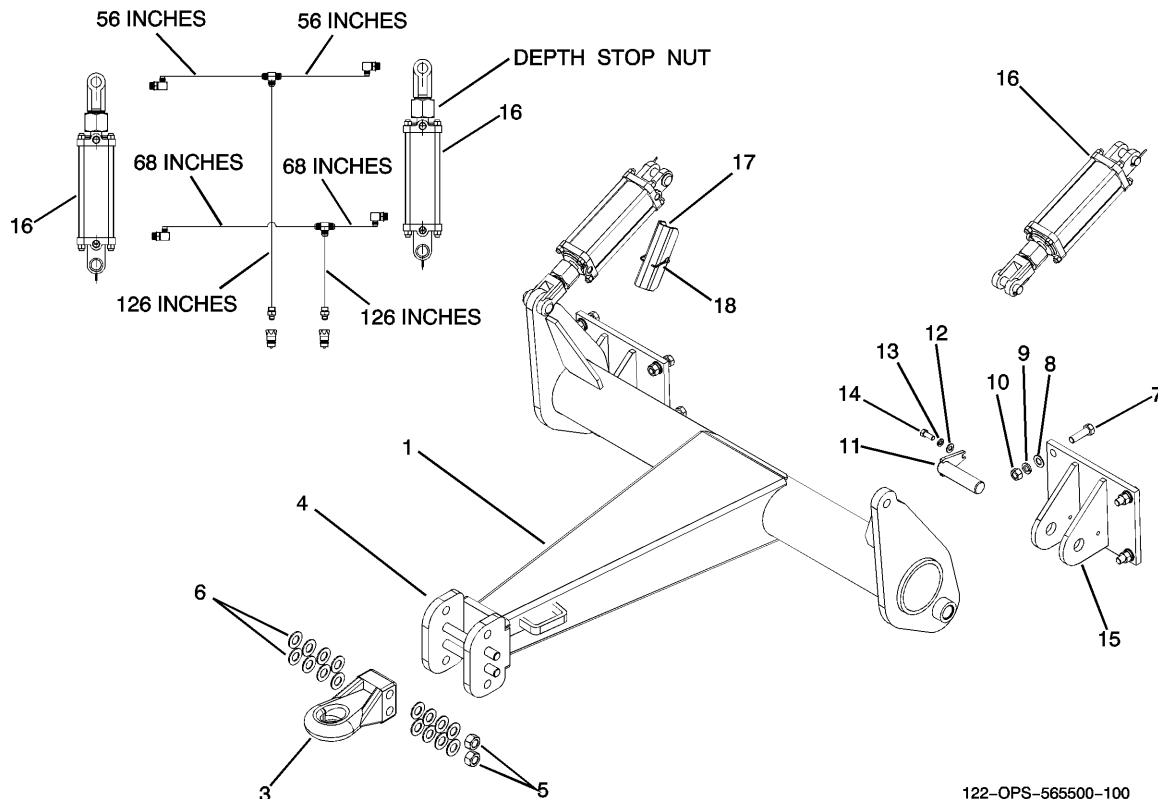

Figure 4 – Hitch And Lift Cylinders
(See Figure 4).
5. Install the PTO shield (20) and support (21) to the front of the jack shaft support and secure using 3/8 X 1-1/4 HHCS, flat-washers, lock-washers, and nuts (8, 23, 25, 26).
6. Install PTO mount hook (22) and secure with 1/8 X 1 inch cotter pin (28).
7. Plumb to hydraulic cylinders as shown in Figure 4 and Figure 5. Secure with hose clamps (29), hose clamp bar (30), 3/8 X 3-1/4 HHCS, and lock-nut.